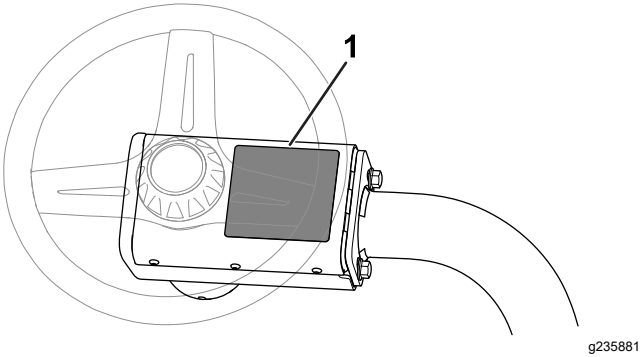

Figure 12
- **CE warning decal**: Apply the CE warning decal (Part No. 139-8321) over the existing warning decal (Part No. 139-8320) on the steering-wheel cover; refer to Figure 12.